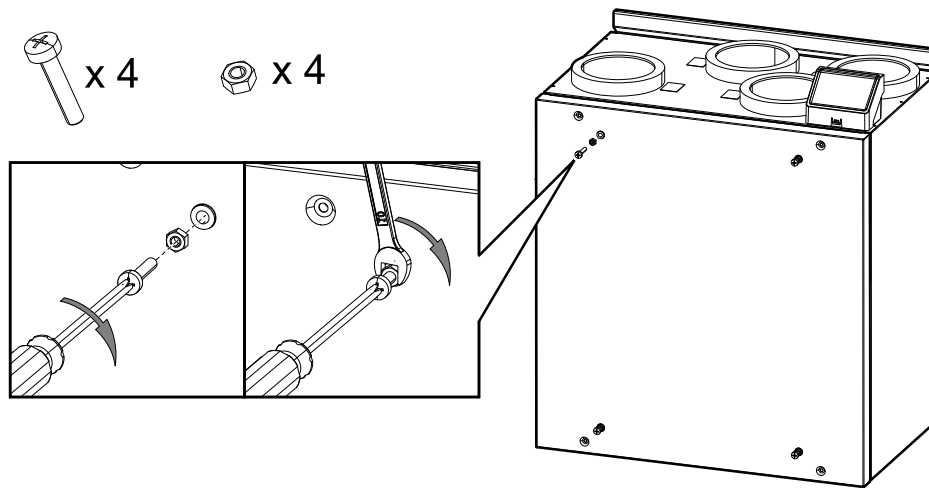

Fig. 12 Installation of bolts
Thickness of wooden blocks should be 25–100 mm. If needed distance is lower than 25 mm, adjust bolts instead of using wooden blocks (see figure 12).
1. Install four M6 bolts into threaded inserts on the unit and lock bolts with hex nuts (figure 12). Bolts protrusion can be adjusted later.